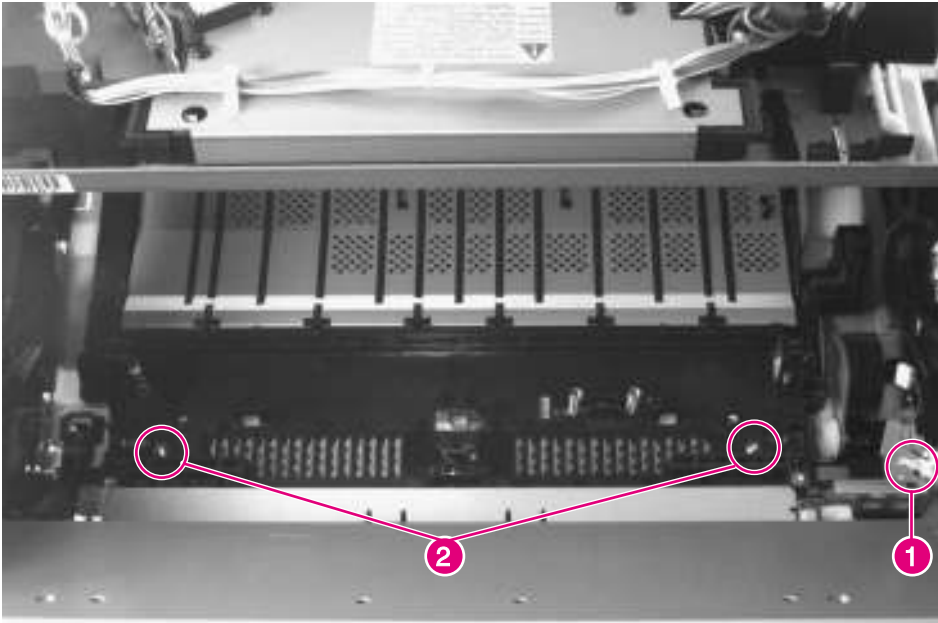

Figure 6-33 Feeder Assembly (1 of 2)
- 6 Unplug the sensor cable at the right side of the Feeder Assembly (figure 6-33, callout 1).
- 7 Remove 2 screws at the front of the Feeder Assembly (figure 6-33, callout 2).